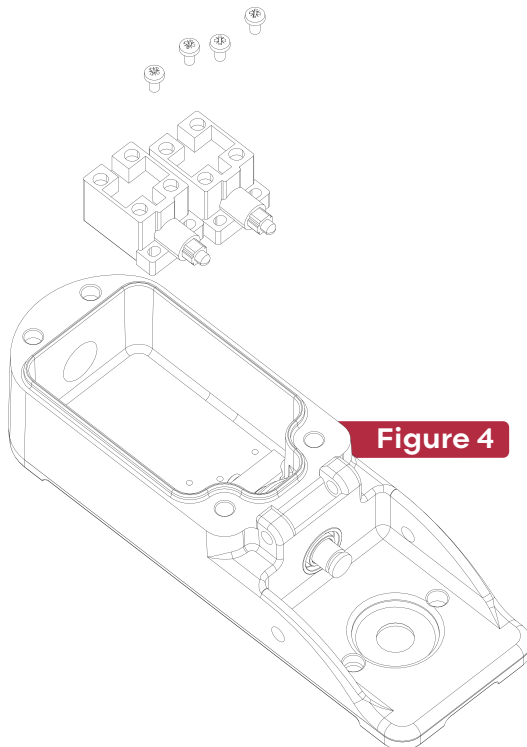

Figure 4
- Mount the switch modules or the analog (potentiometer) block into their designated slots based on the selected configuration **(Figure 4)**.